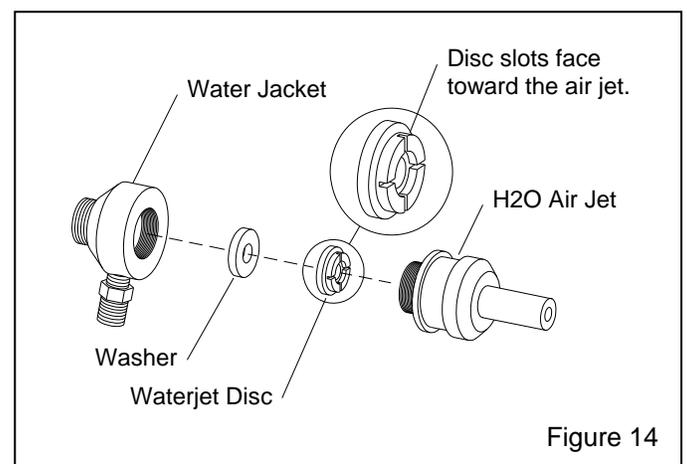

Figure 14
6.4.6 Make sure the jet slots are facing away from the water jacket, as shown in Figure 14, and insert the washer and waterjet disc into the jacket.